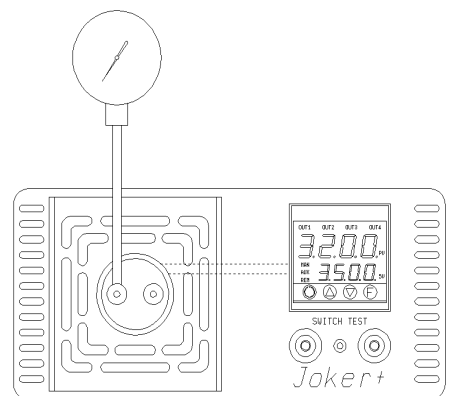

Fig. 5
Make reference to the temperature value of the display (8) (fig.5).